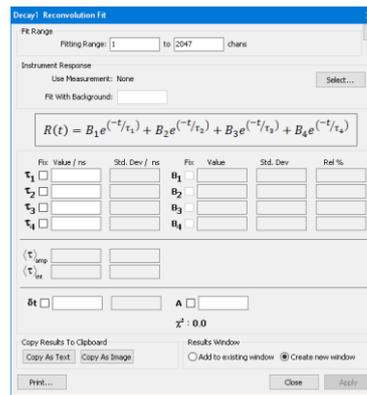

Figure 9-6: Reconvolution Fit dialog box
- 20-4 Select **Data > Exp. Reconvolution Fit...** This will open up a the dialogue box as shown in Figure 9-6. The fitting range shown on top of the dialogue box is inherited from the zoom in step 18-3 above.